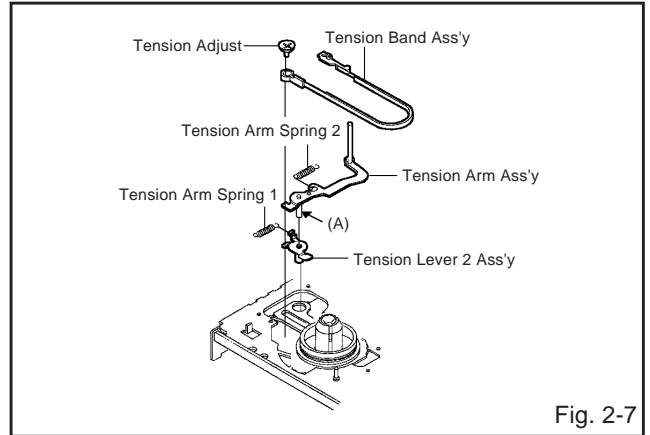

Fig. 2-7
## 2-7: TENSION BAND (Refer to Fig. 2-7)
2. Oil the area marked with A in Fig. 2-7.